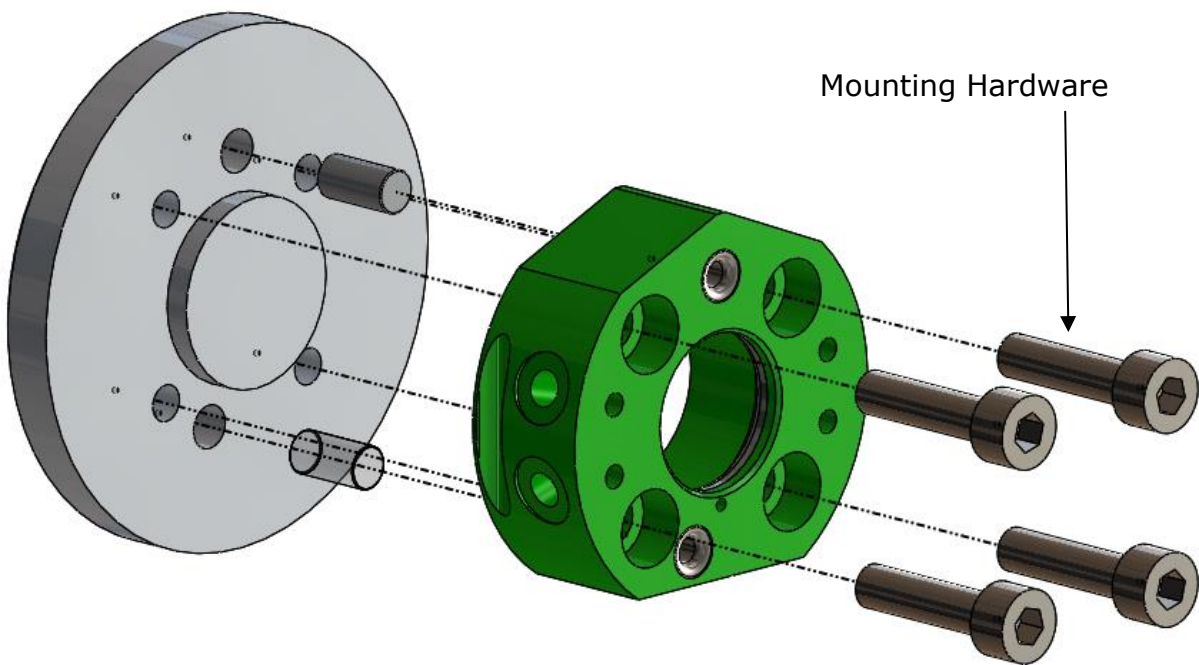

Figure 5.2-2. ET31.5 Tool Side Installation (Bolt Top Down)
1. Locate the Tool Side to the tool plate utilizing either the locating hub and one (1) M5 locating dowel, or two (2) M5 locating dowels (Figure 5.2-2).